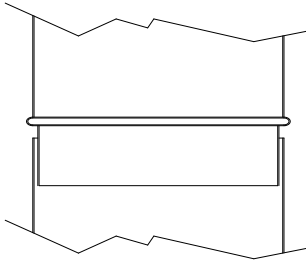
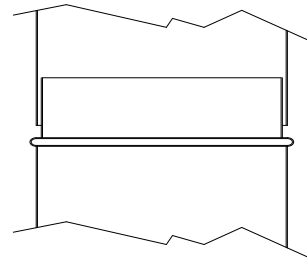

Figure 1.
Figure 2.
- When the pipes run through the inside of the home or a brick chimney, they should be mounted as shown in Figure 1 to prevent liquids produced by the condensation of the gases flowing through the joints and out of the pipes. If a pipe section runs outside the building it must be mounted in the direction shown in Figure 2 to prevent rainwater draining down the outside part of the pipe and entering the pipe interior through the joints.